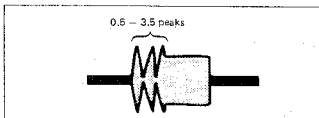

Fig. 7-68.
- 2) Confirm that the RF waveform on the entrance side has 0.5 to 3.5 peaks in this condition. If not, adjust as follows. (See Fig. 7-68.)